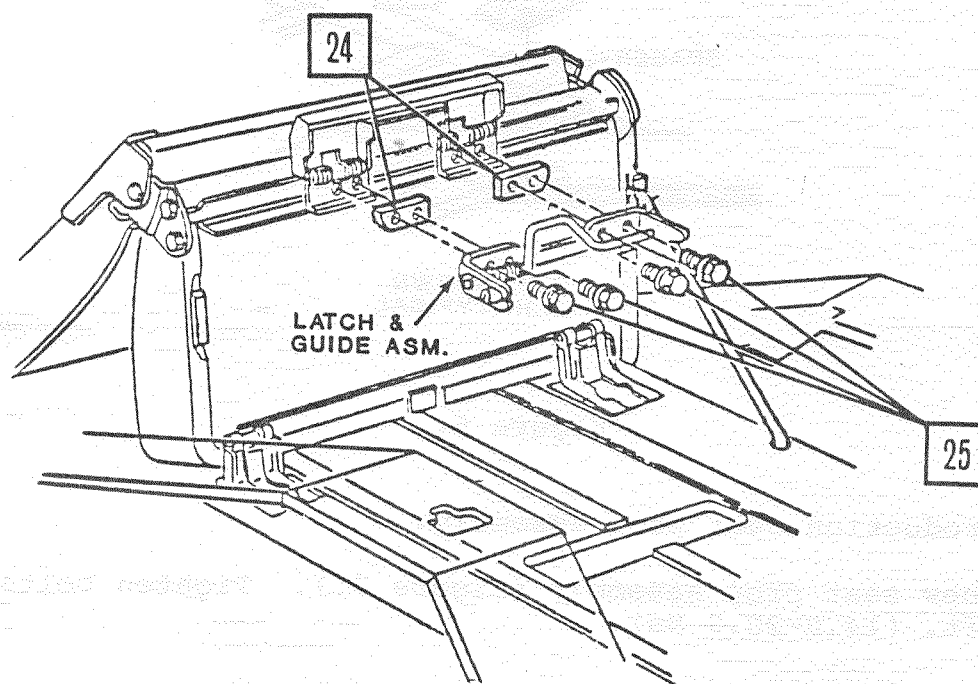

Figure 8.
24. Install latch assembly with two steel spacers and new longer bolts (Figure 8.). Tighten bolts to 15-22 lb.-ft. (20.0-30.0 Nm).